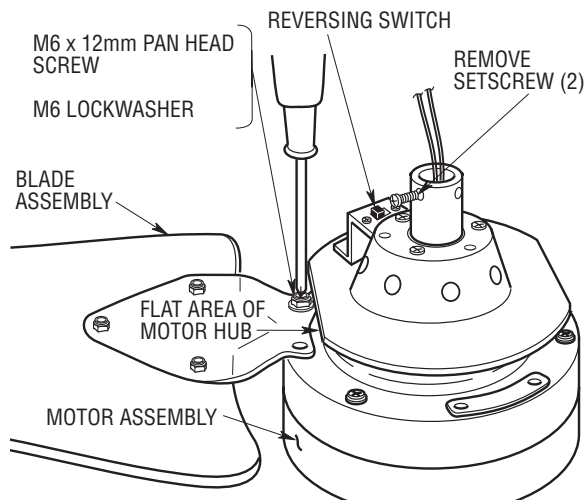

Figure 1
**CAUTION:** The blade assemblies must be mounted on the motor assembly so that the raised lip edge is facing up (Figure 1).
1. Rotate the motor hub so the notched area is above the screw hole in the motor hub. Install one blade assembly on the top of the motor assembly using two M6 x 12mm pan head screws and two M6 lockwashers (supplied) (Figure 1). Repeat this procedure for the remaining two blade assemblies.
2. Remove the two setscrews from the top of the motor coupler (Figure 1). Retain the setscrews for future use.